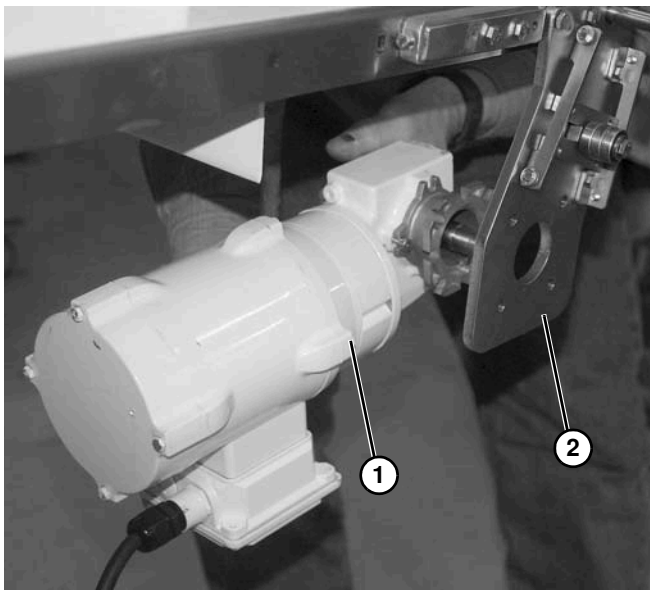
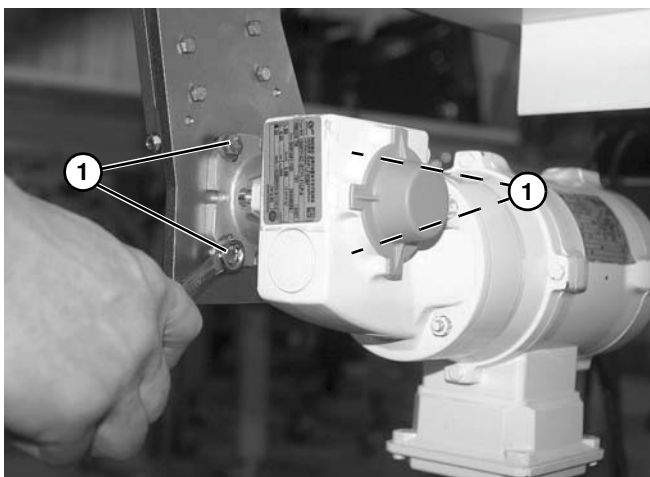

Figure 28
Figure 29
2. Install gearmotor (Figure 28, item 1) onto mounting plate (Figure 28, item 2) with four screws and washers (Figure 29, item 1).